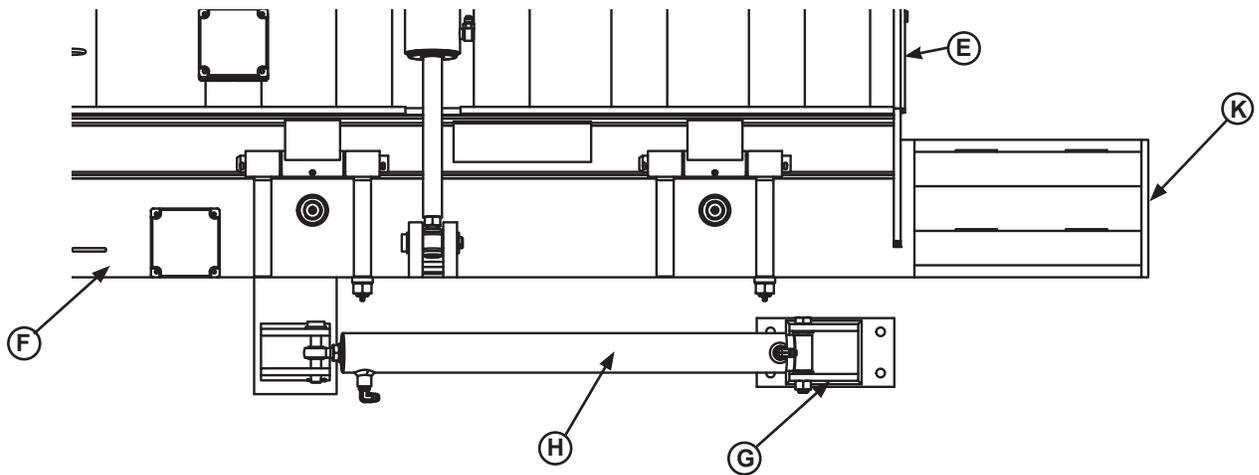

Figure 11
c. Weld on roller track stops (K, Figure 11) and proceed to step 8.
8. Lube the rear hinge pins using grease. Install the hinge pins (C) in one side of the rear embed hinge tubes, leaving room for the platform hinge tubes.
9. Ensure maintenance props (E) are in the lowered position and tightly secured.